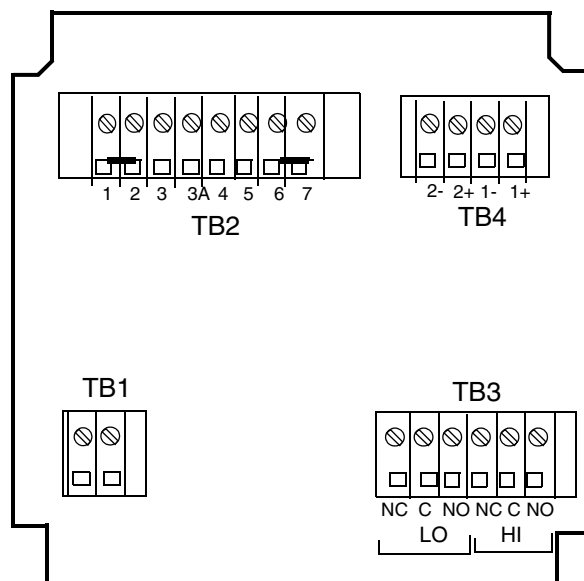

Figure 24. Bench Calibration (NEMA 4X Enclosure Shown)
- e. Connect resistor corresponding to calculated Cal Hi Value between terminals 1 and 2 of TB2 (see Figure 24).
- a. Connect a .001 μ F polycarbonate capacitor across terminals 1 and 2 of TB2 leaving the resistor connected from the previous step (in parallel with the resistor). Refer to Figure 24.
- e. Connect resistor corresponding to calculated value between terminals 6 and 7 of TB2. See Figure 24.
- a. Connect a .001 μF polycarbonate capacitor across terminals 6 and 7 of TB2 leaving the resistor connected from the previous step (in parallel with the resistor). Refer to Figure 24.